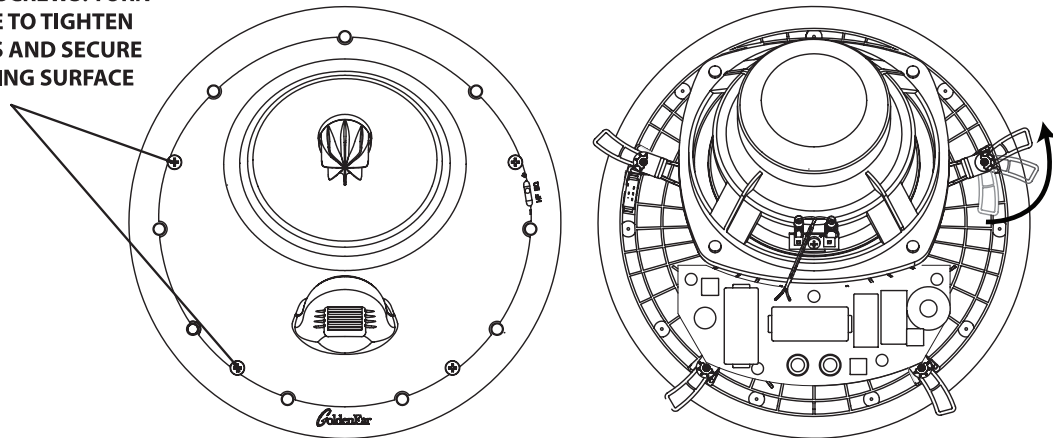

Figure 7
9. While holding in place, tighten the four lock arm screws with a screwdriver (Figure 7). This will rotate the lock arms and secure the speaker to the wall/ceiling. **DO NOT OVERTIGHTEN** the lock arm screws as this could damage the drywall. If you are using a power screwdriver or drill, set the torque to a value of no more than 7 in.-lb (8dN-m).